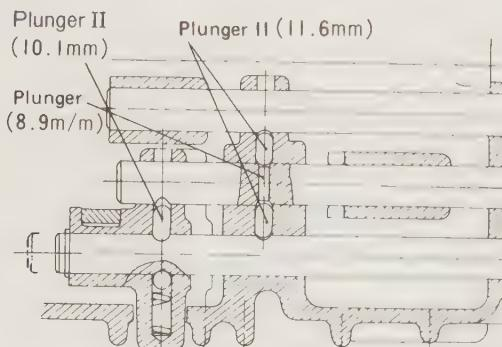

Fig. 6.34. Fitting the 1st/2nd shift rail plungers
- 5 Put the 1st/2nd gear shift rail plungers into the hole in the casing and the reverse shifter rail arm. Insert the correct plunger, referring to Fig. 6.34 for plunger location.